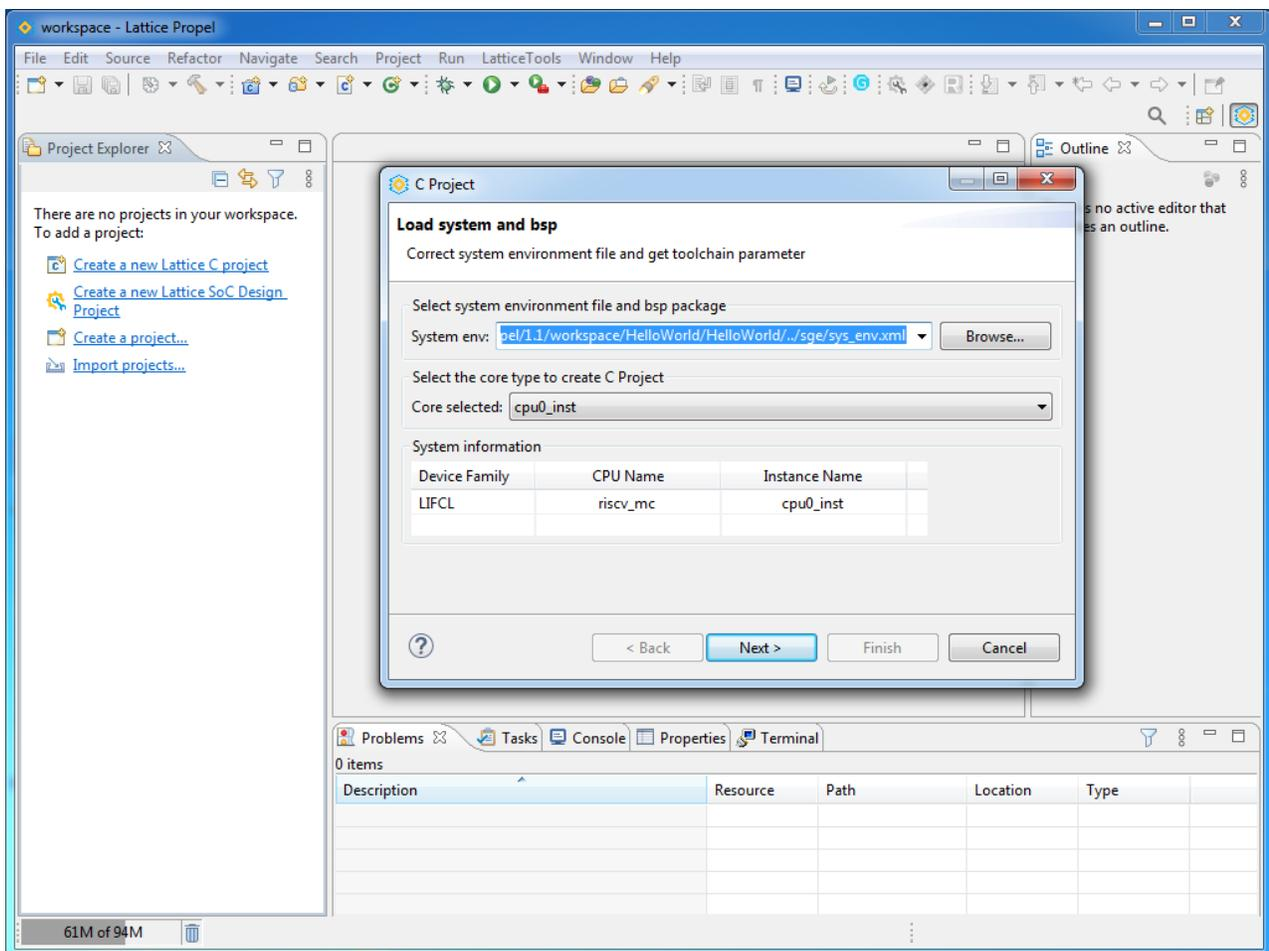

Figure 2.48. Propel SDK GUI and C Project Wizard
2. Click **Launch**. Propel SDK GUI opens and the C Project wizard (Figure 2.48) pops up for loading the system and the board support package (BSP) to create a C project.